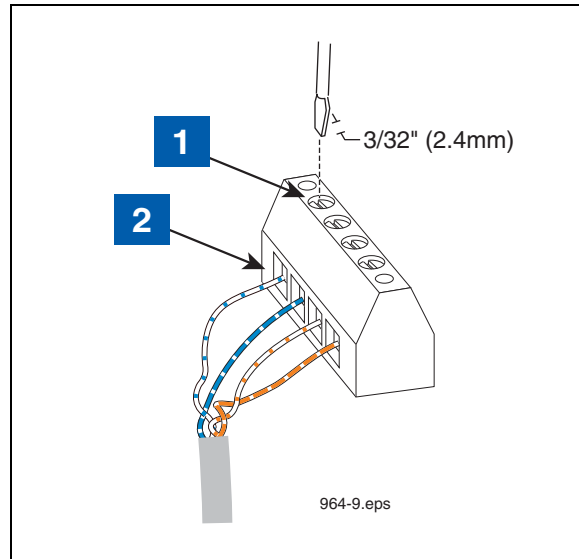

Figure 8. Connecting RS-485 Wiring
**LEGEND FOR NUMBERED BOXES IN Figure 8**